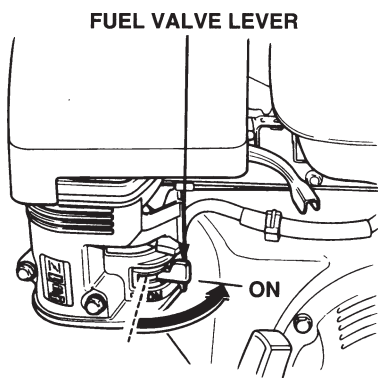

Figure 11. Fuel Shut-OFF Lever
1. Move the fuel shut-off lever (Figure 11) to the **ON** position.